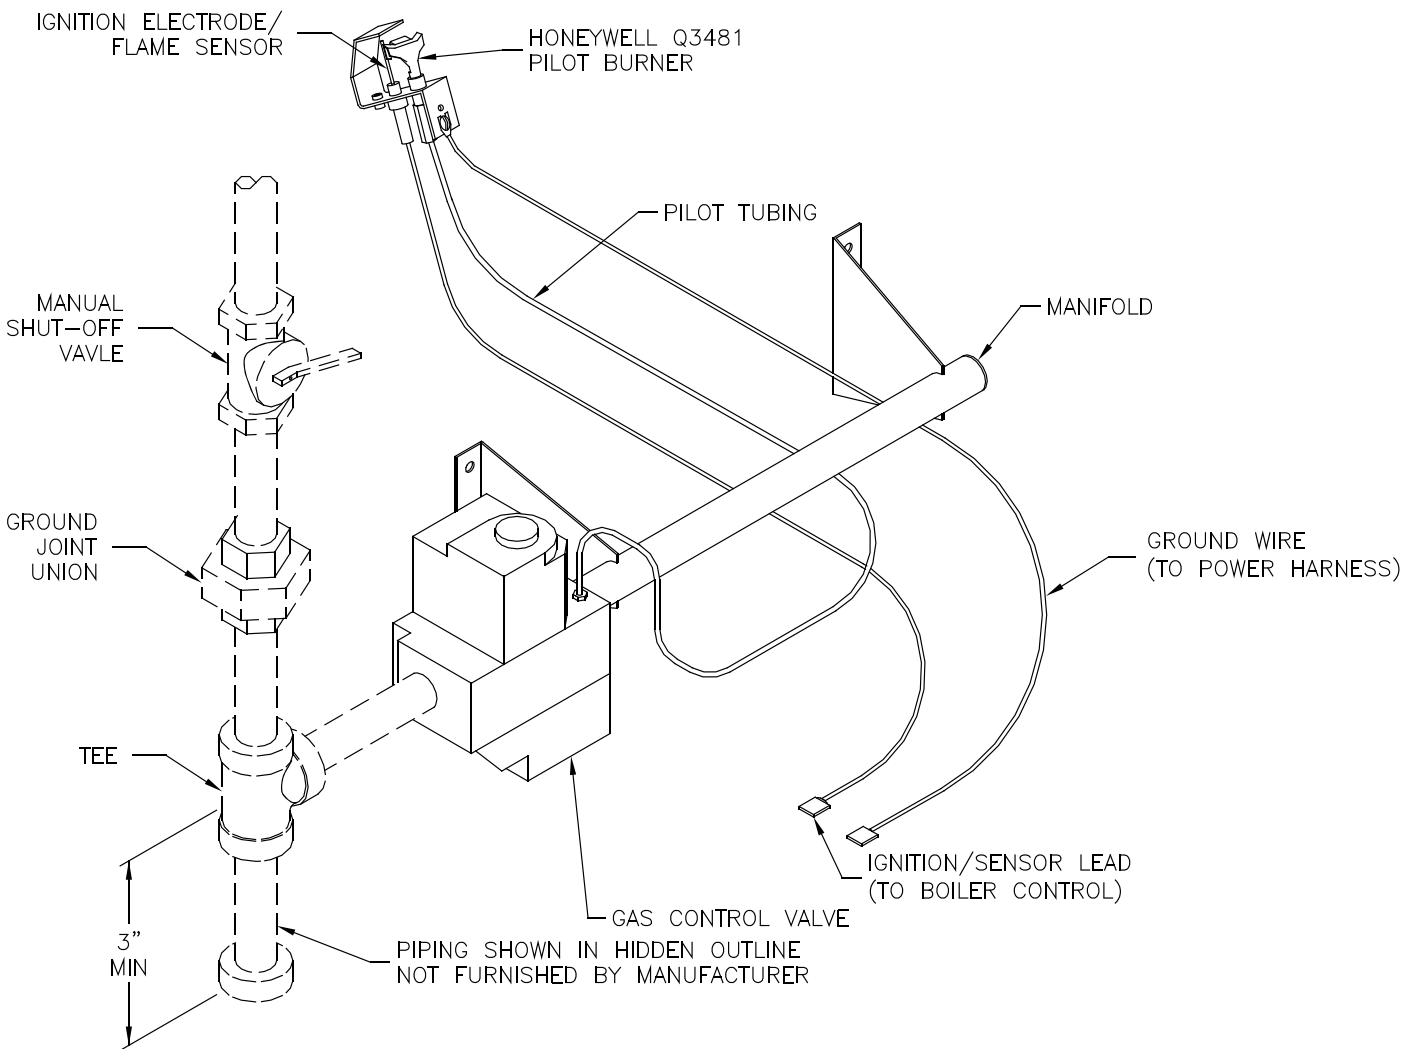

Figure 7: Pilot and Gas Piping
3. Install sediment trap, ground-joint union and manual shut-off valve upstream of boiler gas control valve. See Figure 7.